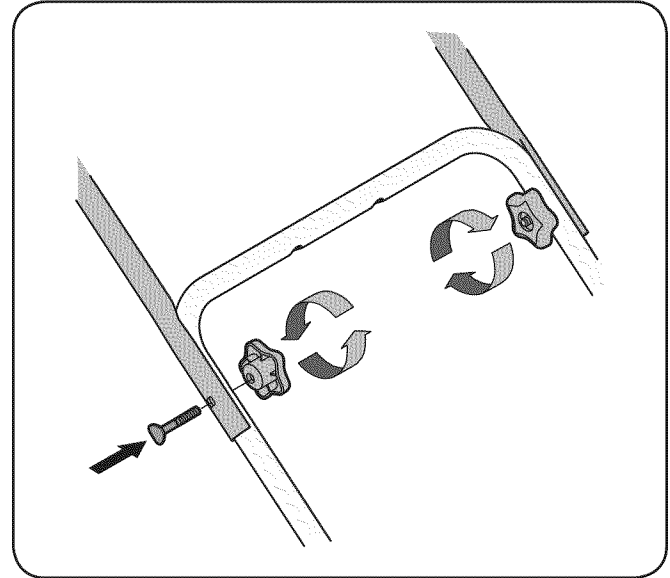

Figure 3-3
2. Secure the upper handle to the lower handle using the carriage bolts and star knobs. See Fig. 3-3. Make sure that the carriage bolt heads go on the outside of the handle.